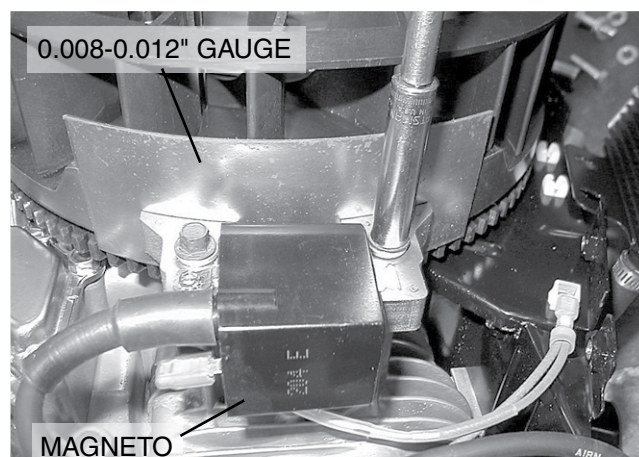

Figure 206. Setting Ignition Magneto (Armature) Air Gap
1. See Figure 206. Rotate the flywheel (by hand) until the magnet is under the module (armature) laminations.